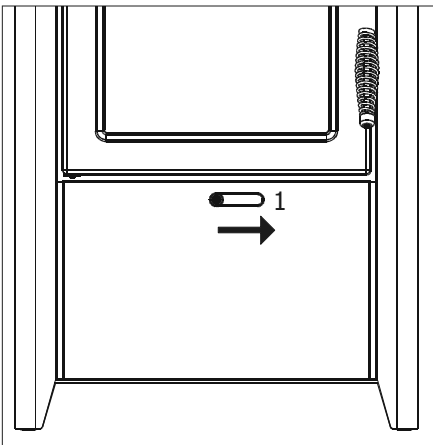

Fig.11 Primary air inlet
The lever turned towards the right (pos.1) is designed to bring a large quantity of primary air beneath the combustion chamber fire plane, to allow rapid and effective ignition of the fire (fig.11).